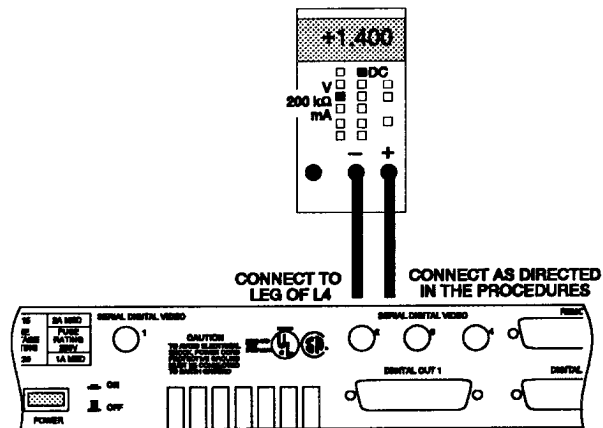

Fig. A-11.
- Connect the “—” probe from the digital multimeter to L4 (-12VA as shown in Fig. A-4) and the + probe to TP8 as shown in Fig. A-11.
- Connect the “—” probe from the digital multimeter to L4 (-12VA as shown in Fig. A-4) and the + probe to TP108 as shown in Fig. A-11.